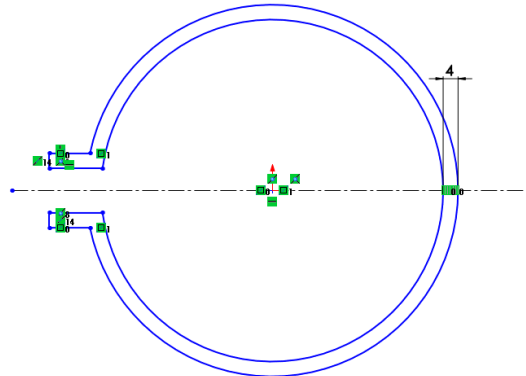

Figure 3-74 Final sketch for Tutorial 2
6. Trim the unwanted entities as discussed earlier. The final sketch is shown in Figure 3-74.